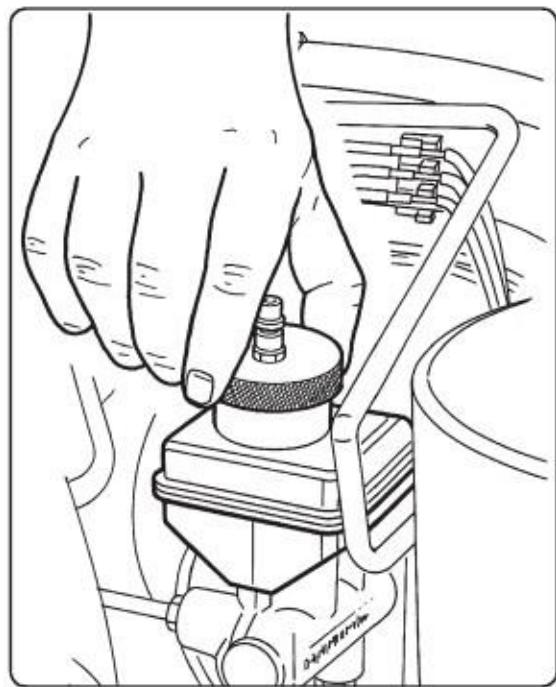

Fig. 4
- 3.2.1. Remove the cap on the vehicle's brake fluid reservoir. If the brake fluid level is not at its maximum level, top it up. Fit the universal adaptor to the brake fluid reservoir, tighten it and ensure that there is a good seal. (Fig. 4).